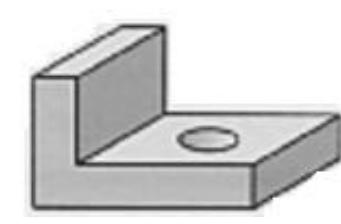
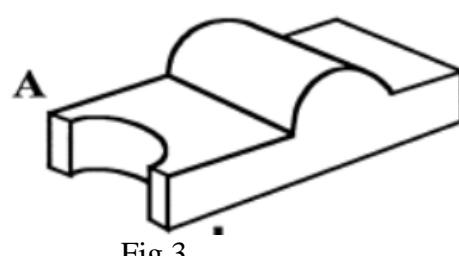

Fig.2
Fig.3
c) Construct a CSG tree for a solid object shown in Fig. 2 and Fig. 3 **08**